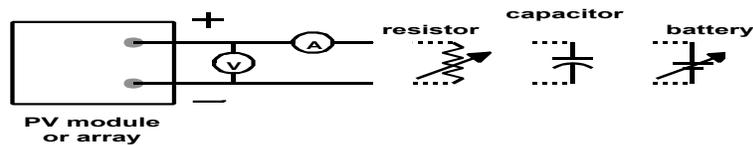

Figure 2. I-V curve measurement methods.
The I-V characteristic for a PV cell, module or array can be measured using several types of electrical loads as depicted in the circuit diagram in Figure 2. For larger PV modules and arrays, I-V curves are generally measured with capacitive loads, power transistors or sink/source power supplies. For small PV modules and arrays, a variable
1. Using a PV module, test kit and banana jacks, assemble the test circuit as shown in Figure 2, leaving the positive lead to the PV module disconnected. Be sure to observe the correct polarity to prevent damage to the meters. Ask an instructor to check your circuit before continuing.